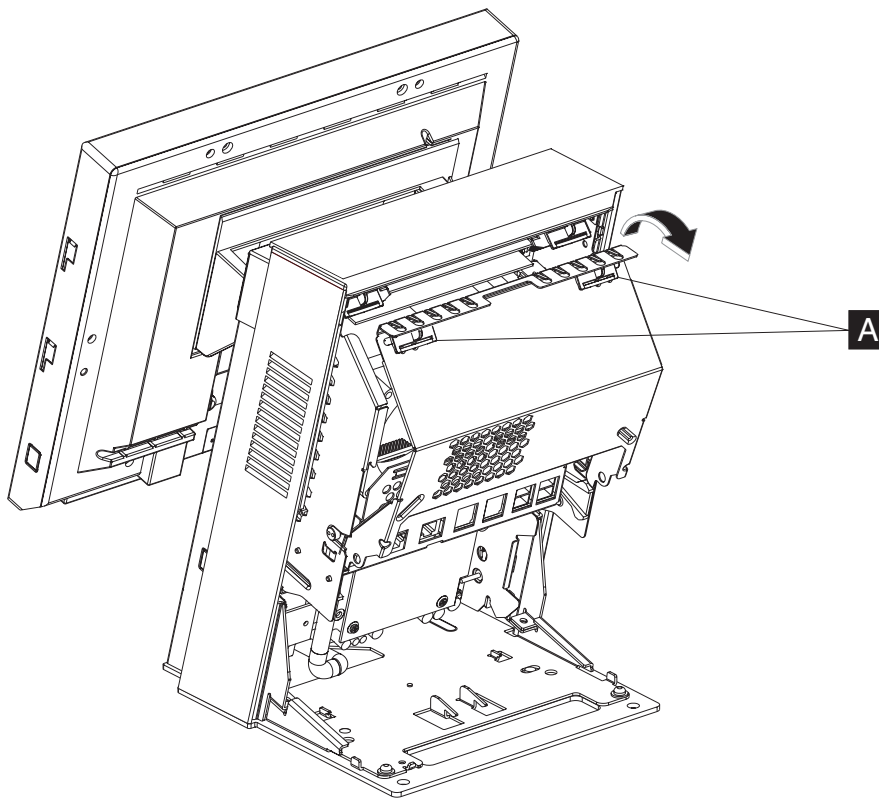

Figure 24. Opening the I/O tailgate cover
5. Unlatch the I/O tailgate cover by sliding the latches (**A** in Figure 24) toward the center.
3. As shown in Figure 24 on page 48, lower the I/O tailgate cover.